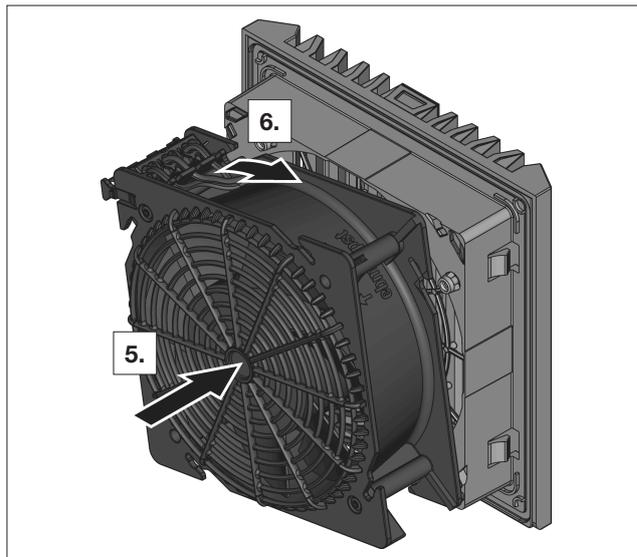

Fig. 14: Locking the bayonet connection
- Place the fan housing back on the filter box (see fig. 14).